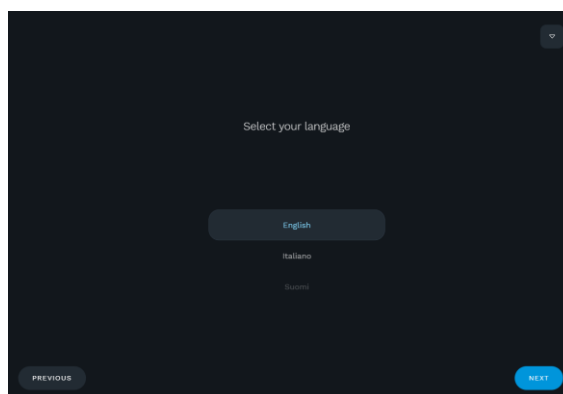

Fig. 15 - Language selection
4. Set the language. A language is suggested according to the selected country (Fig. 15).